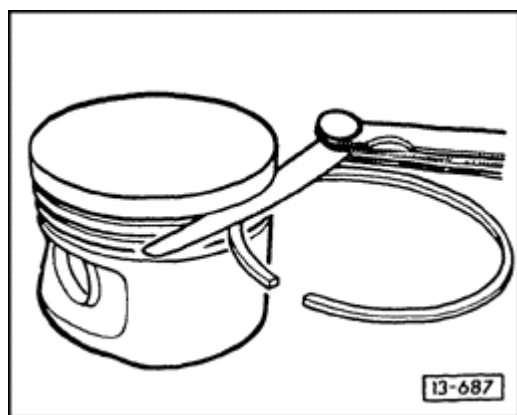

Fig. 2 Piston ring groove clearance, checking
- ◆ ring land clearance, checking ⇒ Fig. 2